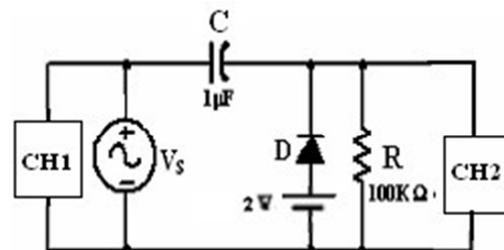

Figure 12
- 6- Switch OFF the Function Generator and insert 2V DC power supply as shown in Figure 12 (**Positive Clamper with bias**), then switch ON the Function Generator and repeat step 3.